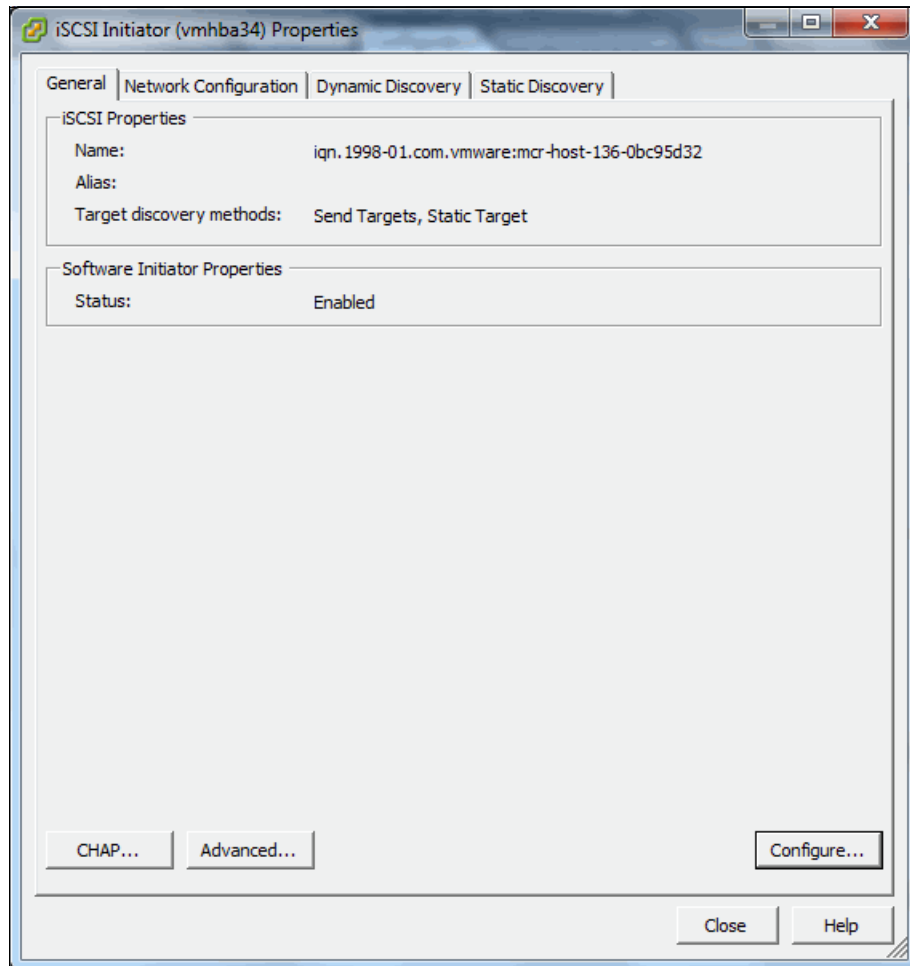

Figure 4-16 Properties of the iSCSI software adapter
- To find the iSCSI initiator name and configure the iSCSI Software Adapter, right-click the adapter and click **Properties**. The window shown in Figure 4-16 should open. Make a note of the initiator name and perform any other necessary configuration.